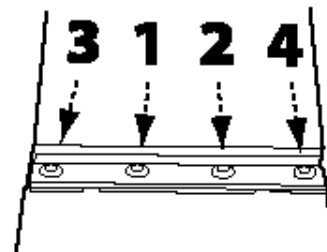

FIGURE 10
- Replace the clamp bar and tighten the four screws securing the clamp bar to the cutterhead. Slightly tighten each of the clamp screws, making sure to follow the sequence shown in Figure 10.